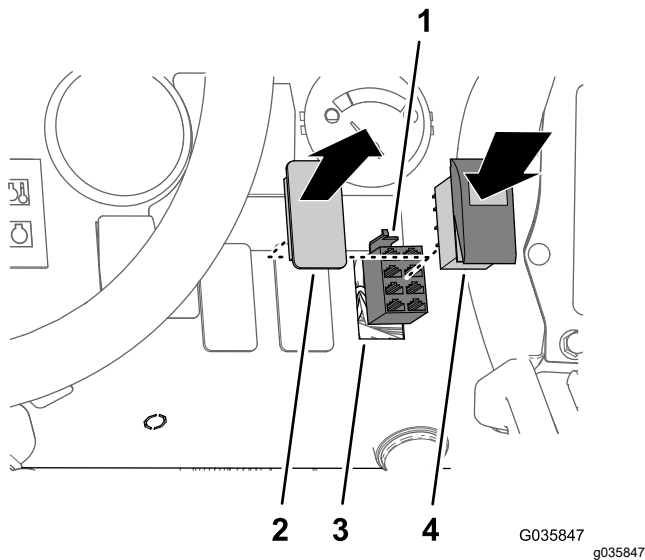

Figure 34
1. Remove the switch plug in the dash panel at the location shown in Figure 34.
2. Connect the 8-socket connector of the wiring harness of the ultra sonic boom finishing kit labeled SONIC MODE MANUAL VS. AUTO to the rocker switch (Figure 34).
3. Insert the rocker switch in the dash panel opening until the switch snaps securely (Figure 34).